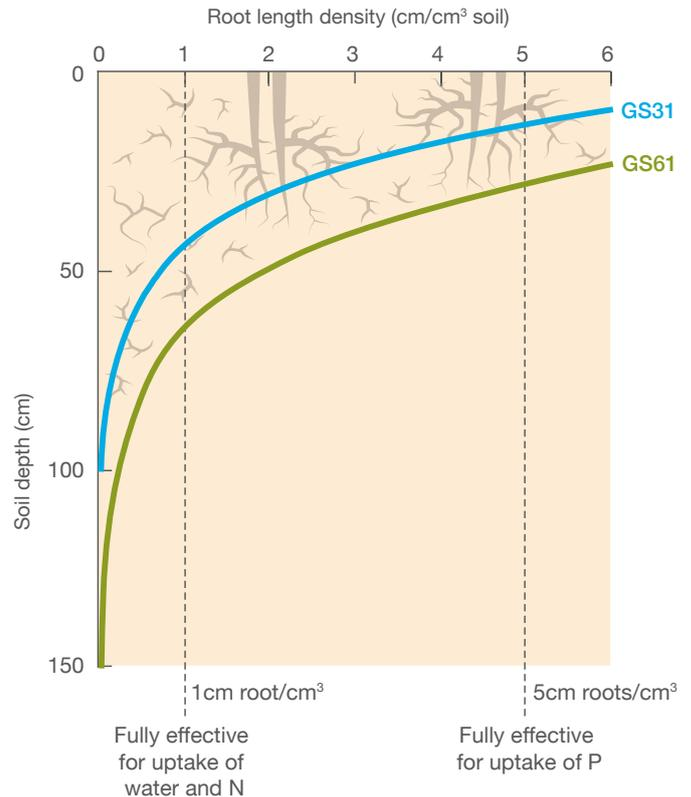

Figure 15. Roots fully utilise water and N to about 40cm depth at GS31 and to 70cm depth by GS61
High rates of uptake of less mobile nutrients, such as phosphorus (P), only occur when root length densities (RLDs) exceed 5cm/cm3 of soil. Lower root length densities are adequate for potassium (K) uptake and about 1cm/cm3 is needed for the take-up of most of the available water and water-soluble nutrients, such as N. Lower RLDs will take up less of the available water and nutrients, this is shown in Figure 15.